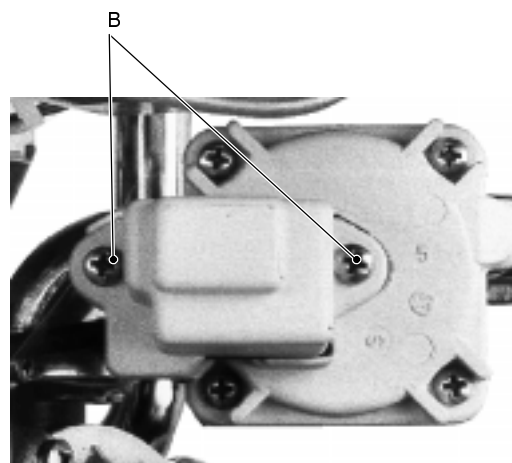

fig. 60
Remove the front panel of the boiler, lower the control panel and remove the lid B of the flow switch (fig. 60).
- 3 Loosen the two screws B that hold the lid and remove the lid (fig. 60);